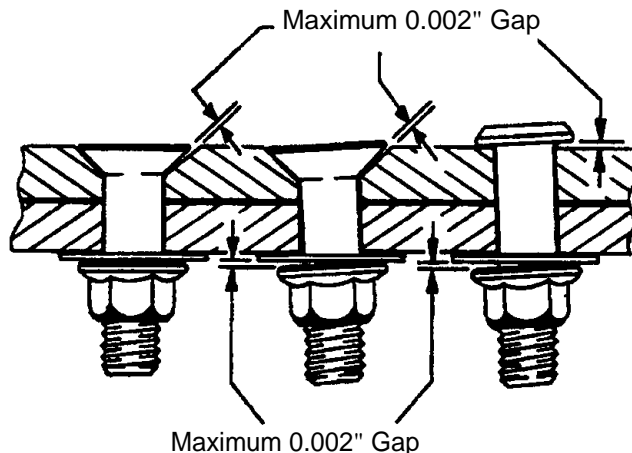

Figure 17 - Incomplete Head or Nut Seating
- 6.4 The maximum acceptable gap under one side of the head, nut or collar of an installed fastener must not exceed 0.002" (see Figure 17). For flush head Hi-Lites, any gap under the head must also not extend to the shank of the pin and the bearing surface must extend at least 240° around the circumference of the fastener head.